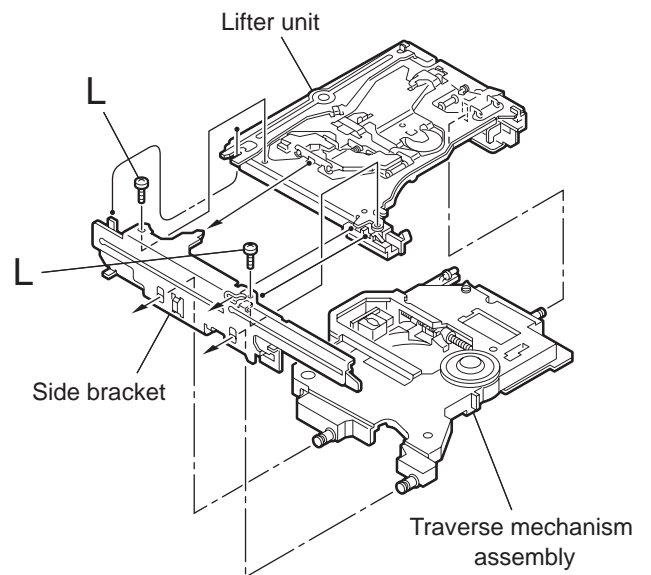

Fig.22
2.4.9 Remove the side bracket and traverse mechanism assembly (See fig.22)